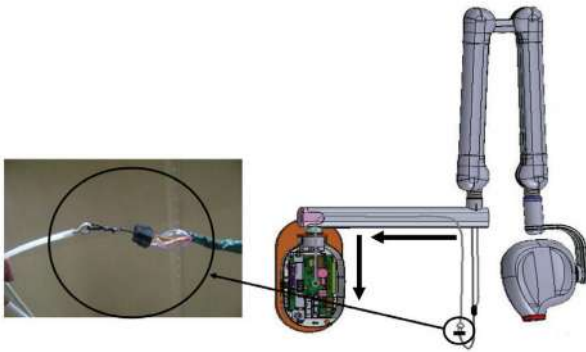

Figure 32
- Tie the end of the cables to the guide wire with magic twister as shown in Figure 32 .